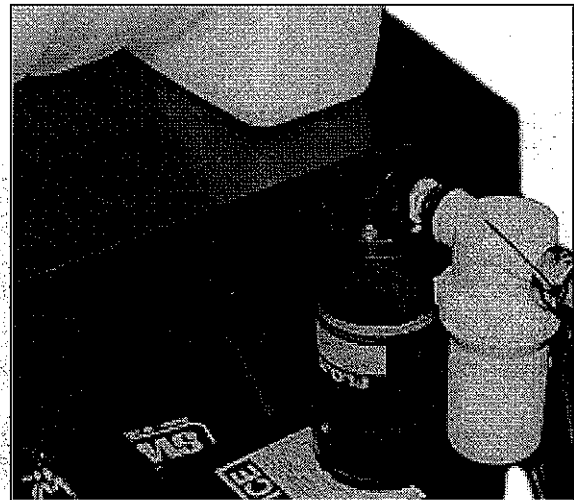

figure 43
- g. Attach the pump and strainer, provided with the sprinkler system kit, to the inside of the tank mounting plate with 4, 1/4 x 1 1/4 in. (6 x 32 mm) cap screws, flat washers, lock washers and nuts provided in the water tank kit (figure 43).